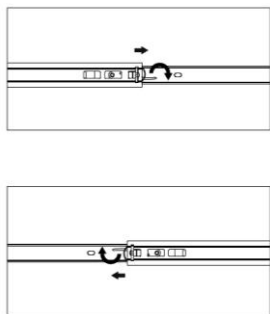

Fig. 3
3. Push up on the release lever on the right-hand drawer slide (#13) while pulling down on the other release lever (Fig. 3).